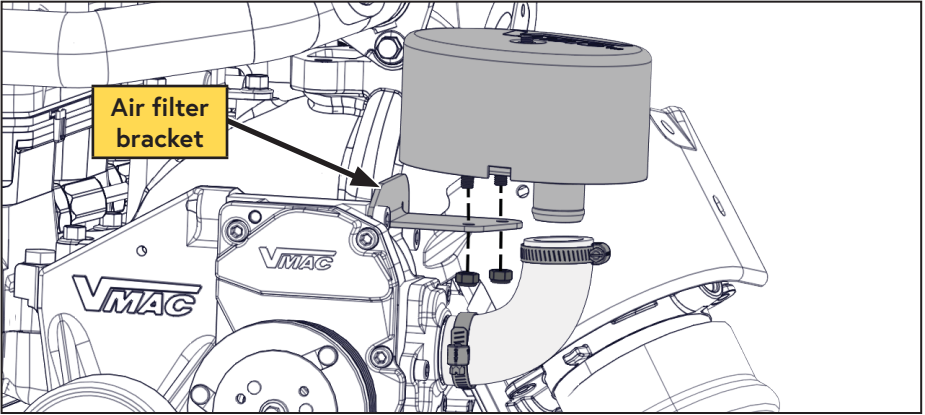

Figure 23 — Air filter bracket
- Install the intake hose onto the compressor inlet and the spigot on the bottom of the air filter housing. Mount the air filter assembly to the bracket with the (x2) nuts and secure the hose with the supplied gear clamps (Figure 23).